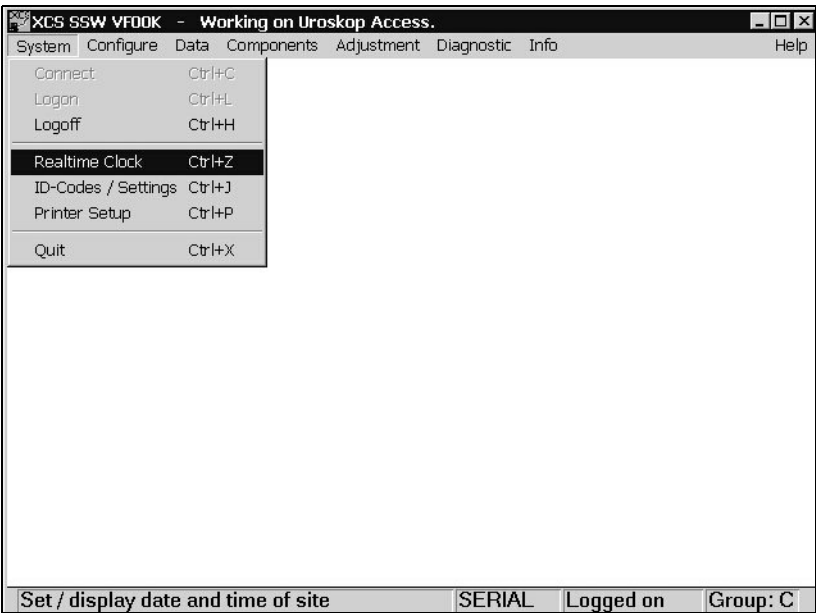

Fig. 3 XCS SSW - 3
- Select "System/Real time clock" (Fig. 3).